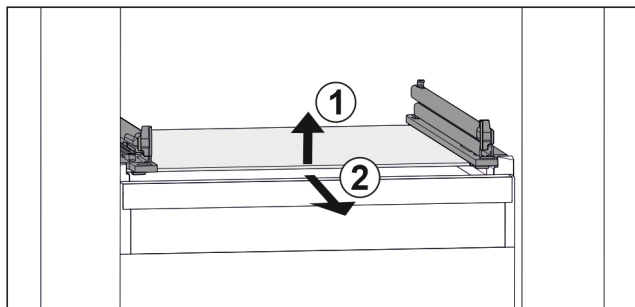

Fig. 36 Example illustration of glass shelf
- ▶ Lift glass shelf at the front. Fig. 36 (1)
- ▶ Remove glass shelf to the front. Fig. 36 (2)